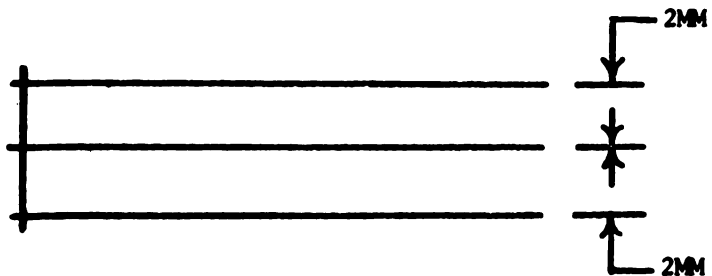

Figure 2. Reference lines.
3. Faults appear frequently and haphazardly throughout the pattern areas of fingerprints. Their use as authenticating data for the FIS requires an accurate method for recording the description of the faults and their location in the pattern area. A template is used in the fault count to provide a means of orienting the critical faults. The template is a transparent medium upon which reference lines are inscribed. The reference lines are three parallel lines drawn 2 millimeters apart and closed at one end by a line drawn perpendicular to the parallel line, as illustrated in figure 2. The overall length of the parallel lines need be no longer than that required to reach the core of an impression to its delta.